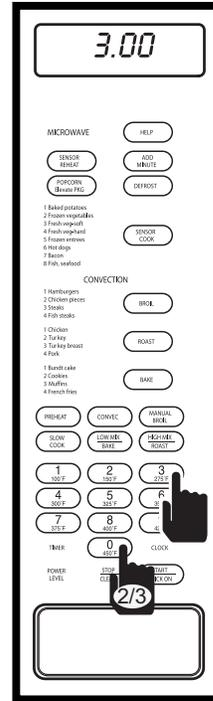

Figure 3-26.
2. Enter amount of time for the timer to countdown. For example: 3 minutes; press the number 3 key, and number 0 key twice, the display will flash "3.00 " (See Figure 3-26).